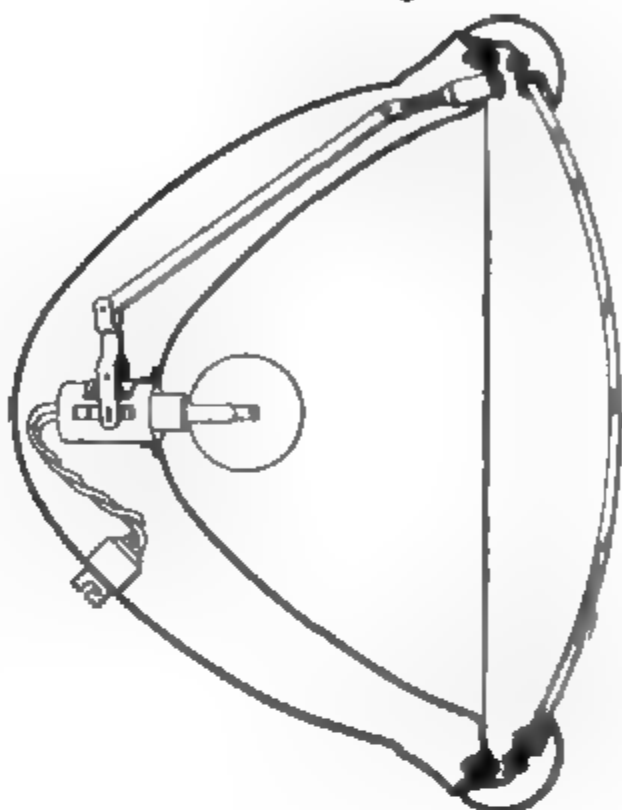
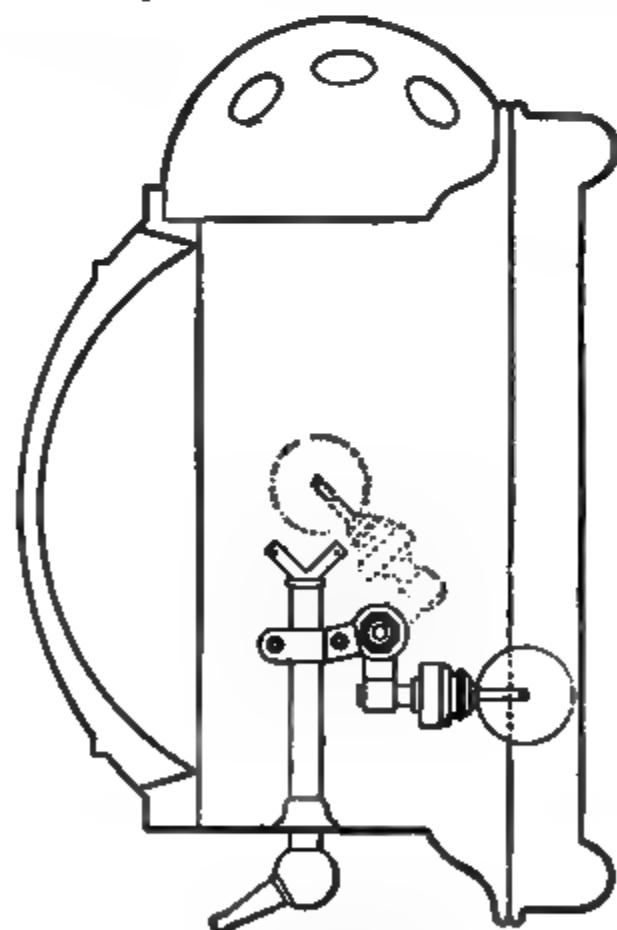

Fig. 187. Section of Fig. 186
Fig. 188. Early Type of Reflector
*Comparison of Parabolic with Lens Type.* The reflector in the foregoing lamp is of the deeply parabolic metal type, illustrated in Fig. 187. The advantage of this type of reflector is that it intercepts a much larger proportion of the light rays from the lamp than the lens-mirror type of reflector, Fig. 188.